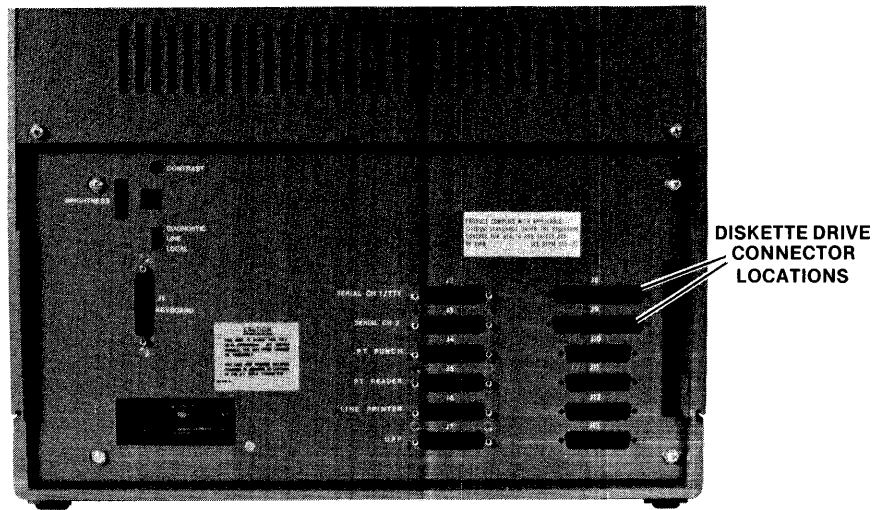

Fig. 4-7 Model 220 Back Panel Disk Cable Locations
7. Install the two connectors on the disk control cable in the holes on the back panel as shown in Figure 4-7. Put the connector for drives 0 and 1 in the bottom hole and drives 2 and 3 in the top hole. Attach the connectors with hardware supplied with the controller.